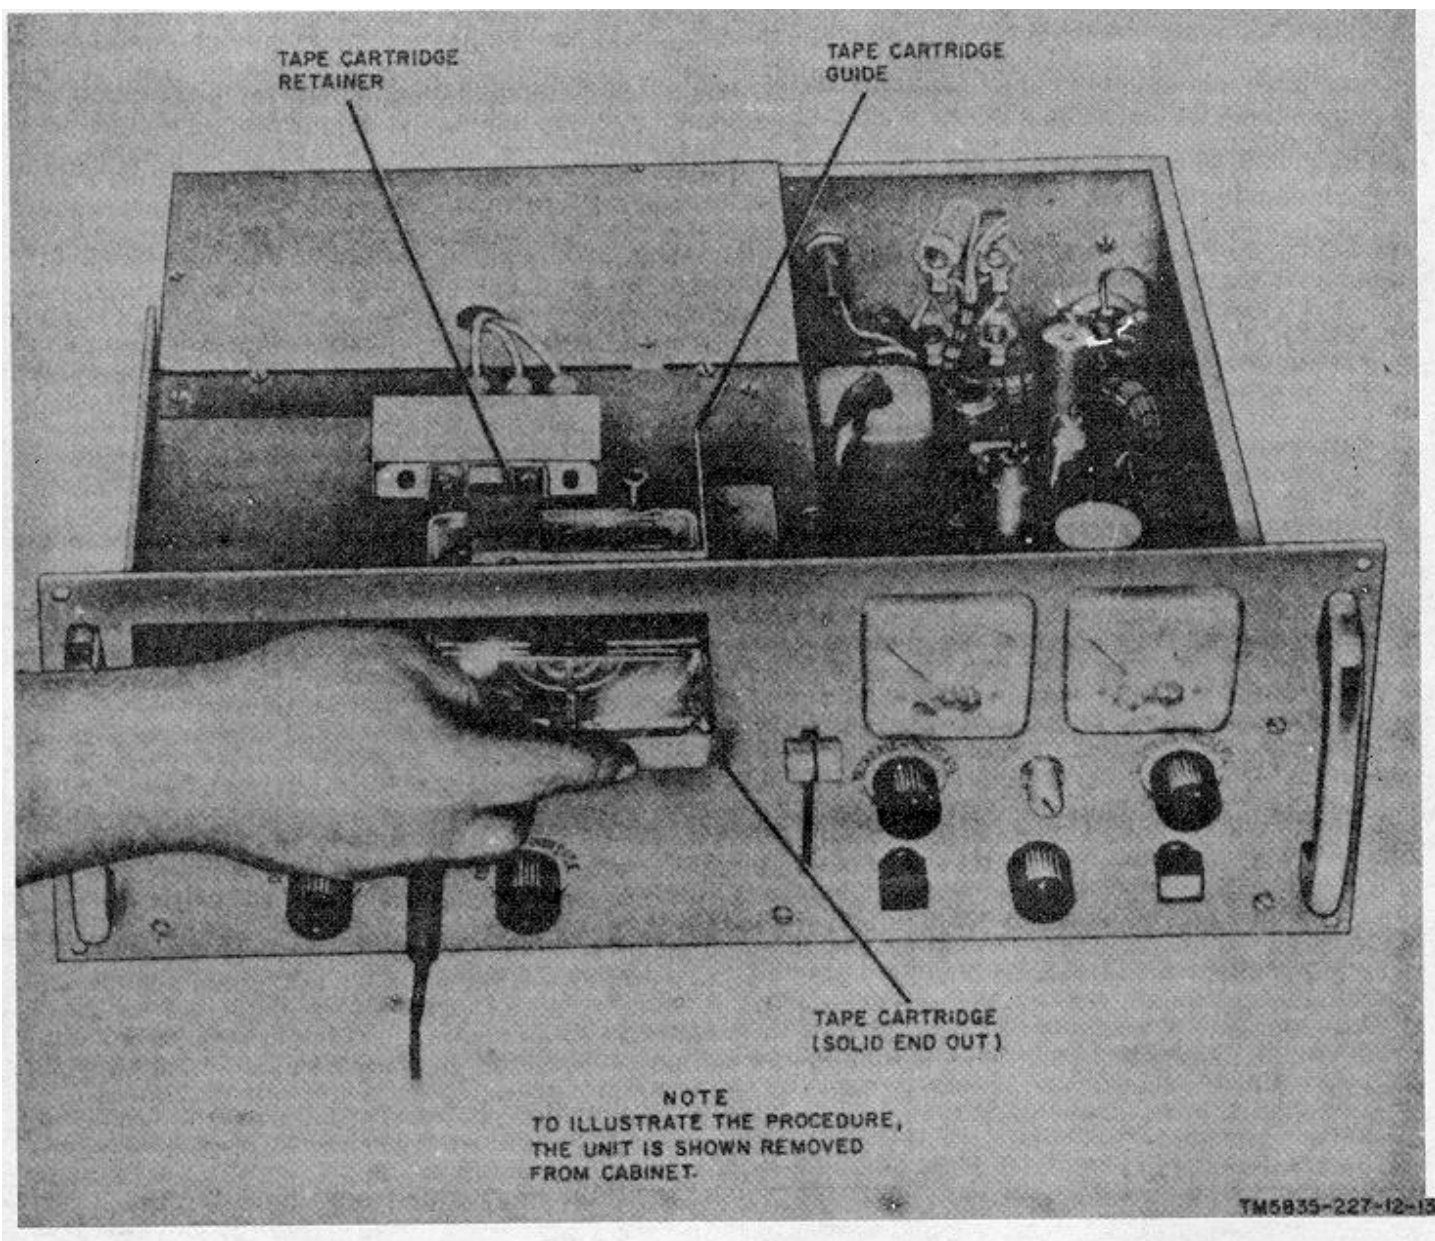

Figure 19. Inserting tape cartridge
- (1) Insert the tape cartridge into the access hole with the transparent side up and the solid end facing away from the unit (fig. 19).
- (2) Set the RELEASE-READY lever to READY. The STOP lamp lights.
- (3) Depress the START pushbutton; then depress and hold the FAST FORWARD pushbutton. The START lamp lights and the STOP lamp is extinguished.
- (1) Insert the *clean* tape cartridge (*d* above) into the access hole on the panel with the transparent side up and the solid end facing away from the panel (fig. 19). Push the tape cartridge to the right side of the access hole and as far in as it will go. The tape cartridge guide will position the tape cartridge correctly.